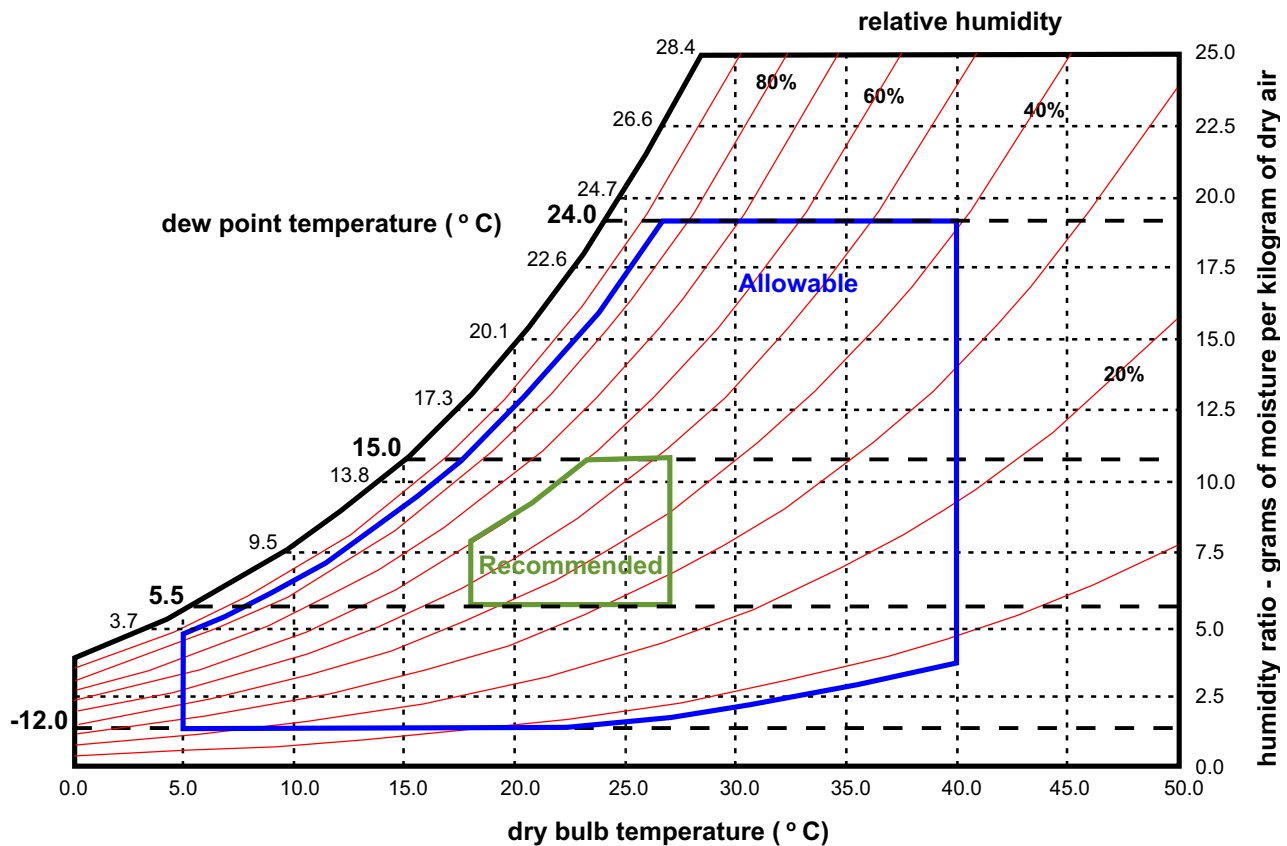

Figure 1. Environmental operating specifications - line graph format
4. The minimum humidity level is the larger absolute humidity of the -12°C (10.4°F) dew point and the 8% relative humidity. These intersect at approximately 25°C (77°F). Below this intersection the dew point (-12°C) represents the minimum moisture level, while above it, the relative humidity (8%) is the minimum. See Figure 1 on page 12 for a graphical explanation of the envelope.
Figure 1 shows the environmental specifications in **line graph** format.